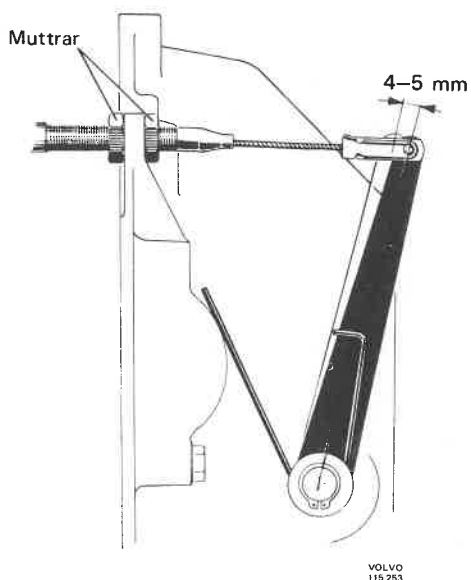

Fig. 41-2. Clutch lever play
Correct clutch pedal play is obtained by adjusting the release lever, see Fig. 41-2, so that a play of about 5 mm (0.20"), A, is obtained. Play is adjusted by moving the clutch wire sleeve by means of the nuts (1) at the clutch casing attachment.